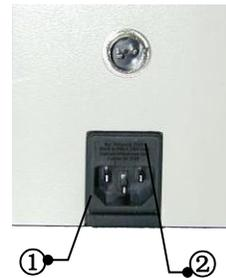

Fig.20.
The fuse of microscope is integrated in the power supply socket ①. Pull out power supply plug, take out the seat of fuse ②, replace a new fuse and insert the seat again. See fig.20.